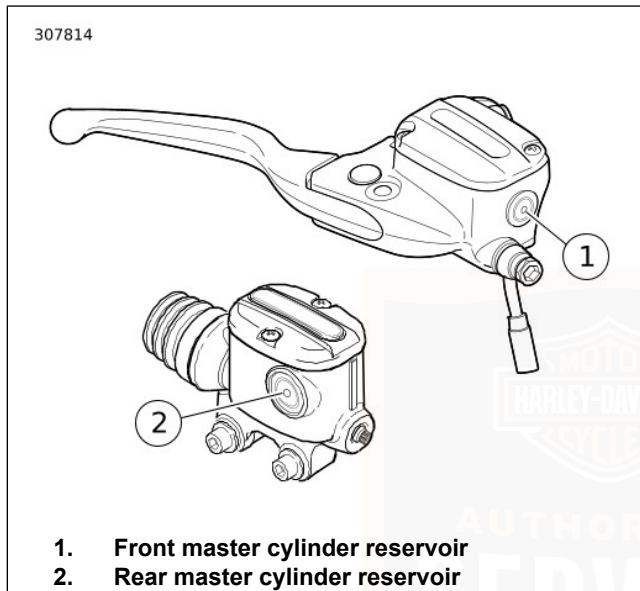

Figure 76. Sight Glass Minimum Marks
2. See Figure 76. View reservoir sight glass. Fluid level must be at or above the minimum mark on glass. If fluid level is below minimum mark, see a Harley-Davidson dealer.